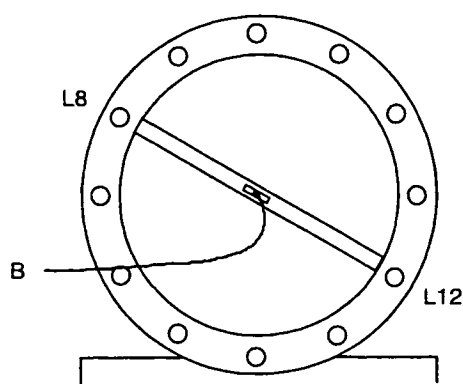

Figure 6 Flux probe position L8 - L12, seen from patient support end.
10. Position the linear flux probe in position L8 - L12 (see Figure 6). The flux probe holder must be positioned against the front ring of the head coil. The flux probe holder must be used without the 360°rotation knob.